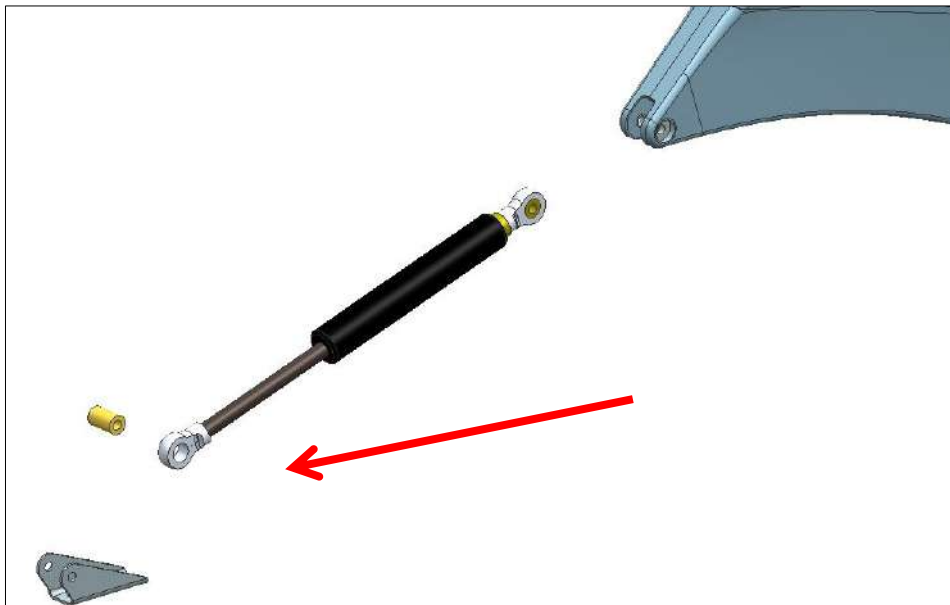

Figure 52-3: Canopy gas strut system
6. Reinstall the gas strut ensuring that the rod end with the bush is facing forward relative to the fuselage (Figure 52-3).